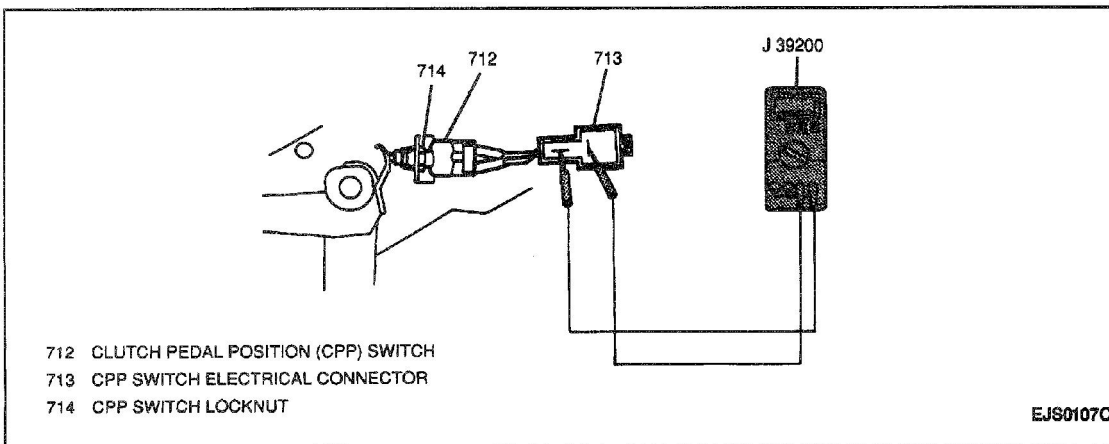

Figure 7—Adjusting Clutch Pedal Position (CPP) Interrupt Switch
- C. Screw the CPP switch clockwise into the brake pedal bracket until continuity is obtained (Figure 7).